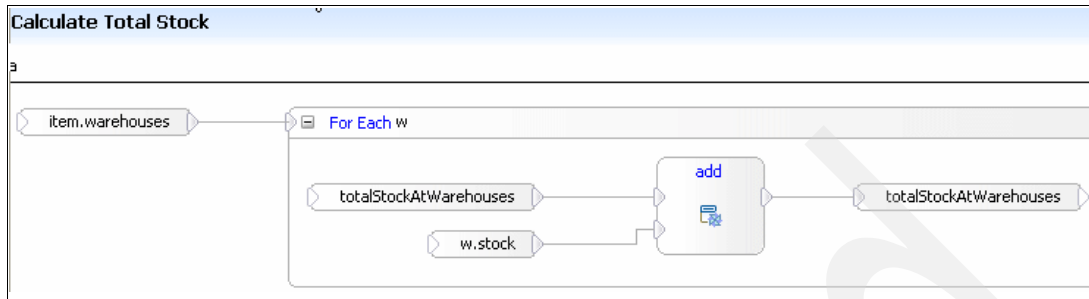

Figure 3-38 For Each design completed
j. Complete the For Each item as shown in Figure 3-38.